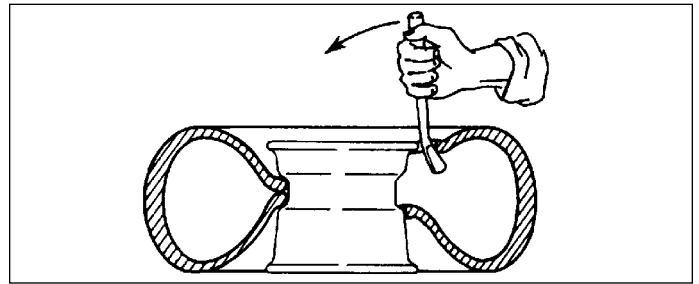

Figure 12 - Drop Tire to Center
4. Push tire off wheel flange into wheel well. See Figure 12
6. Install tire on wheel from valve stem side. If tire machine is unavailable, use rubber mallet and tire iron to install tire on wheel. See Figures 12 & 13.